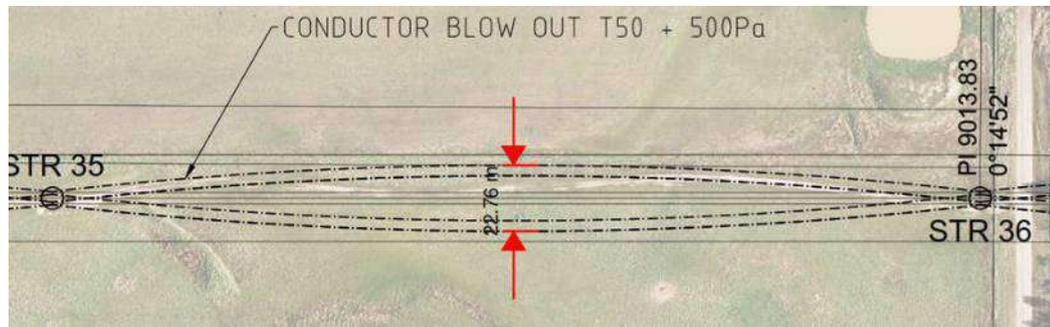

Figure 1. Minimum horizontal clearance space required across the OHL
It is understood the internal 33kV OHL extends approximately 10.5 km in length connecting the west sub-station in the south to a transitional station in the north (Figure 1). The Native Vegetation Impact Assessment is required to determine any vegetation in proximity to the OHL within the clearance space.
- The minimum horizontal clearance space required from the centreline of the OHL is 13.3 m (11.38 m + 1.95 m) (Figure 1); and